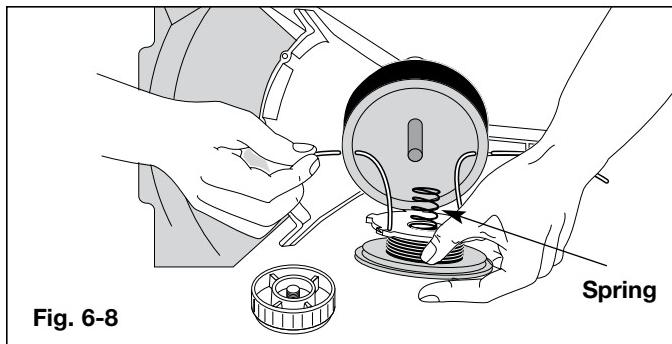

Fig. 6-8
- Insert the ends of the line through the eyelets in the outer spool and place inner reel with spring inside the outer spool (Fig. 6-8). Push the inner reel and outer spool together. While holding the inner reel and outer spool, grasp the ends and pull firmly to release the line from the holding slots in the reel.
5. Insert the ends of the line through the eyelets in the outer spool (Fig. 6-8).